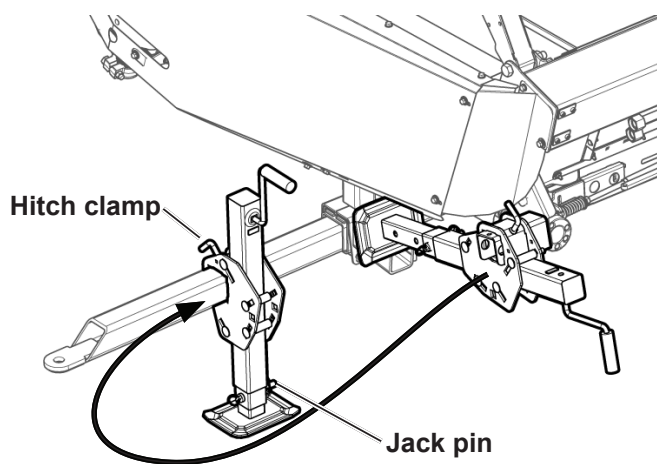

Fig. 73
8. Install the jack onto the hitch tube, and tighten the hitch clamp to secure it in place. ("Fig. 73")